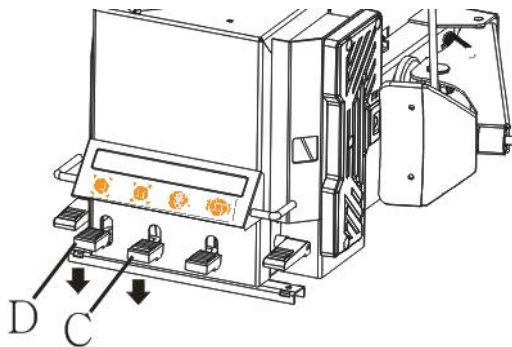

Fig. 14
- Place the tire on the clamps and keep the rim pressed down now press pedal D (fig.14) as far as it will go.
- Place the tire on the clamps and press the pedal C (fig.14) to open the clamps and thereby lock the rim.